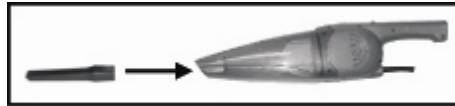

Fig. 5
- Push the crevice tool or floor brush into the suction hole opening. (Fig. 5)